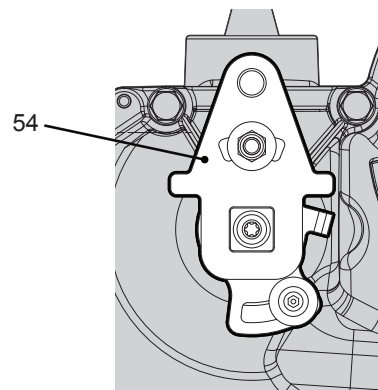

Figure 6, Transaxle Control Arm
4. Stroke the transaxle control arm (54) until 183 rpm axle speed is obtained. Refer to Figure 6.
5. Rotate the 2-speed control arm (168) and lock down arm (165) together until the axle speed reaches 265 rpm. Lock down the 2-speed lock down arm (165) with the 2-speed control arm (168) against the stop.